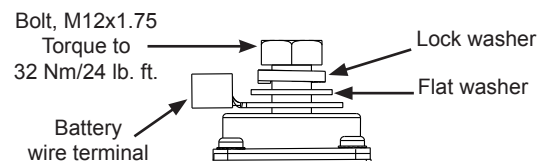

Figure 2: B+/B- Terminal Hardware Stacking Order
5. Connect vehicle B+ cable to alternator B+ terminal. Install hardware on B+ terminal in stacking order shown in Figure 2. Torque to 32 Nm/24 lb. ft.
6. Connect vehicle B- cable to alternator B- terminal. Install hardware on B+ terminal in stacking order shown in Figure 2. Torque to 32 Nm/24 lb. ft.